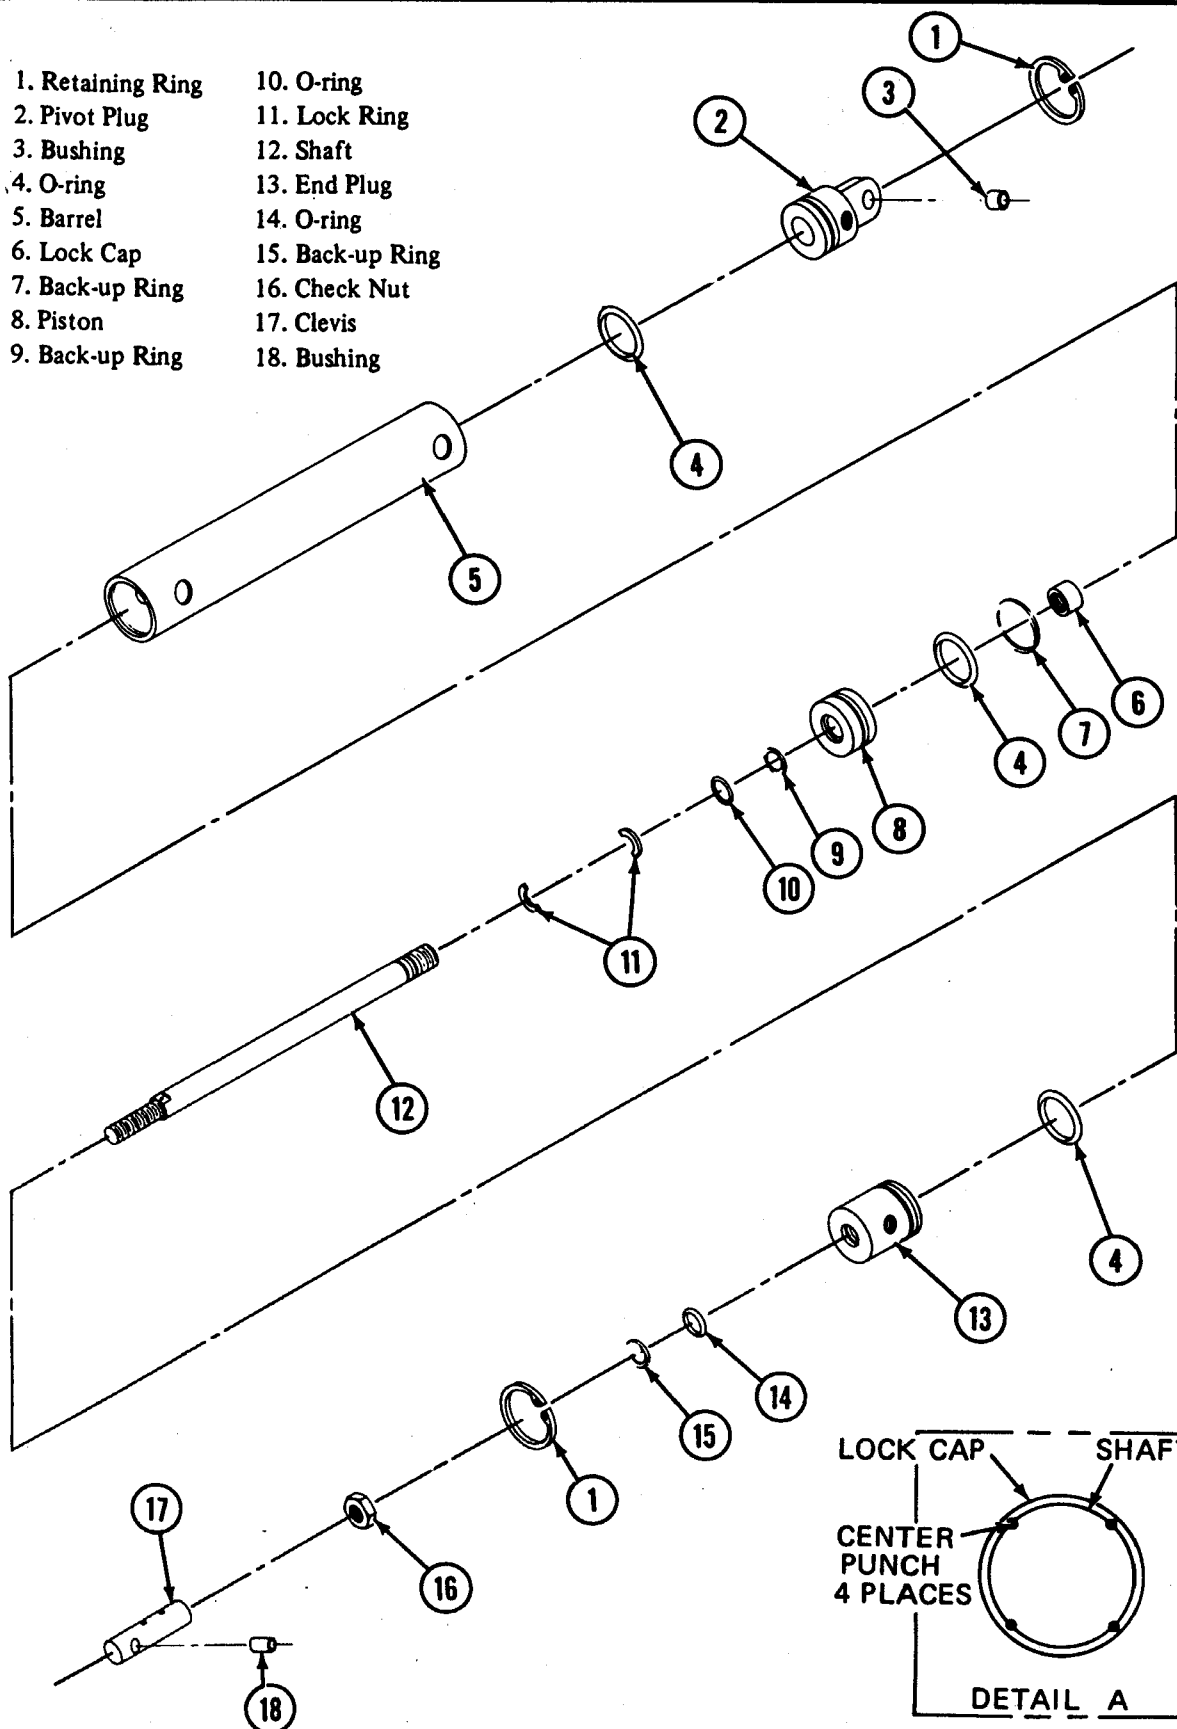

Figure 7-23. Main Gear Actuating Cylinder.
7-25. MAIN GEAR ACTUATING CYLINDER. (Figure 7-23).
(2) When the piston (8) and lock cap (6) are installed on the shaft (12), use a center punch and stake the cap and shaft in four places (see Figure 7-23, Detail A).
(3) Lubricate the O-rings and surfaces on the inside of the barrel that will make contact with the O-rings, with the same type hydraulic fluid that will be used in the system